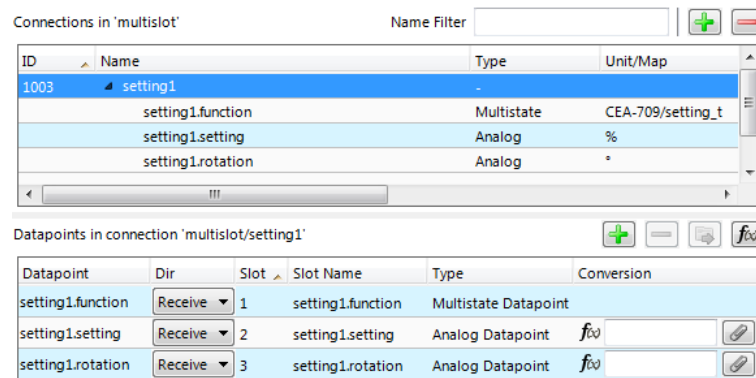

Figure 20: Multi-slot connection.
4. A multi-slot connection is created as shown in Figure 20. The multi-slot connection can be collapsed or expanded. In the expanded view it shows all slots. Select the top-level multi-slot connection to view all data points in the connection. Select a single slot beneath to view only data points in that slot.